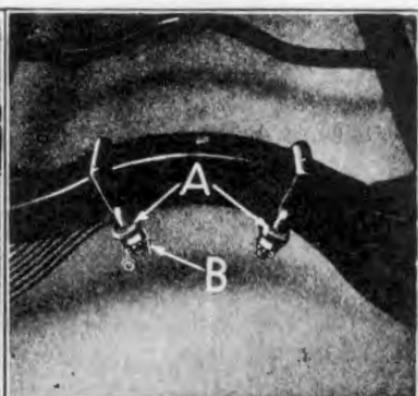

Fig. 67
- 70** *Install spring clip bars* (See "A" Fig. 67) over ends of spring clips. Run down and securely tighten the four spring clip nuts, locking three of the nuts with cotter keys and using the wire on the tail lamp wire bushing "B" to lock the fourth nut.